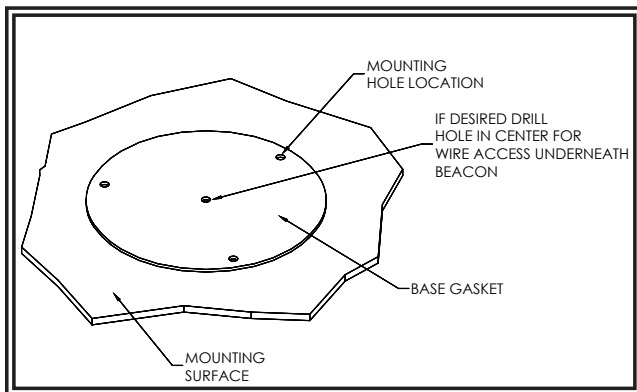

FIGURE 1
2. Using the base gasket as a template, mark the three mounting hole locations (see FIGURE 1).
4. A fourth hole (3/8") may be drilled for wire access as shown in Figure 1, or the wires may be routed through the knock-out in the base for external access. The wires may be routed through the included grommet.